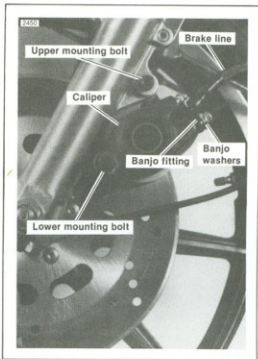

Figure 2-61. Front Brake Caliper Mounting
1. Coat the outside diameter of mounting pin (2) with Dow Corning Moly 44 grease.
2. Position the caliper with the disc between the friction pads and the two mounting holes in the caliper aligned with the mounting lugs on the fork. See Figure 2-61.
3. Place a flat washer on bolt (1), then insert the upper mounting bolt through the fork lug, through the pad holder (7), then thread the bolt into the threaded bushing (4).
4. Insert the lower mounting pin (2) through the caliper, the fork lug and then thread into the tapped hole at the lower end of pad holder (7). Tighten lower mounting pin to 25-30 ft-lbs torque.
5. Tighten upper mounting bolt (1) to 25-30 ft-lbs torque.
7. Using new banjo washers, connect the brake line to the caliper. Torque banjo bolt to 30-35 ft-lbs torque. See Figure 2-61.